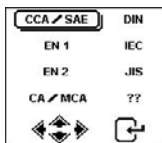

Fig.29
- Once the battery type[SLI (WET)] or [AGM] has been selected, it will proceed to the display as shown below (Fig.29):